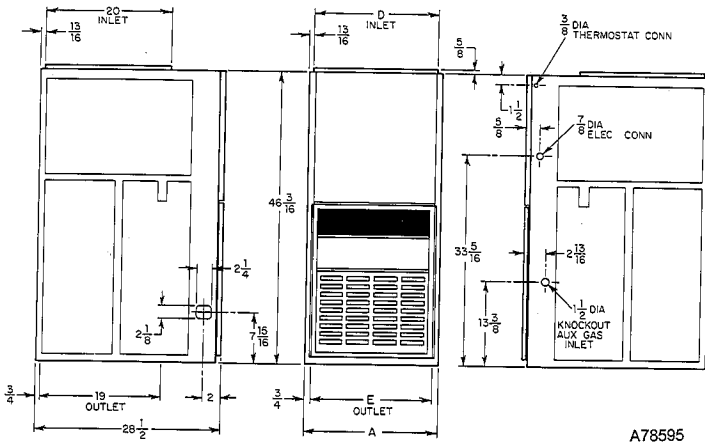

Fig. 2—Dimensional Drawing
1. See Fig. 2 for dimensions and location of supply-air opening in furnace bottom.